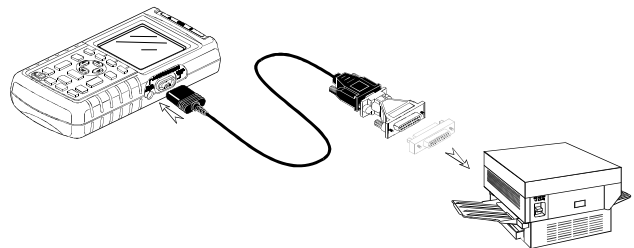

Figure 1-19. Connecting a Serial Printer
- The Optically Isolated RS-232 Adapter/Cable (PM9080) to connect a serial printer to the OPTICAL PORT of the test tool. See Figure 1-19.